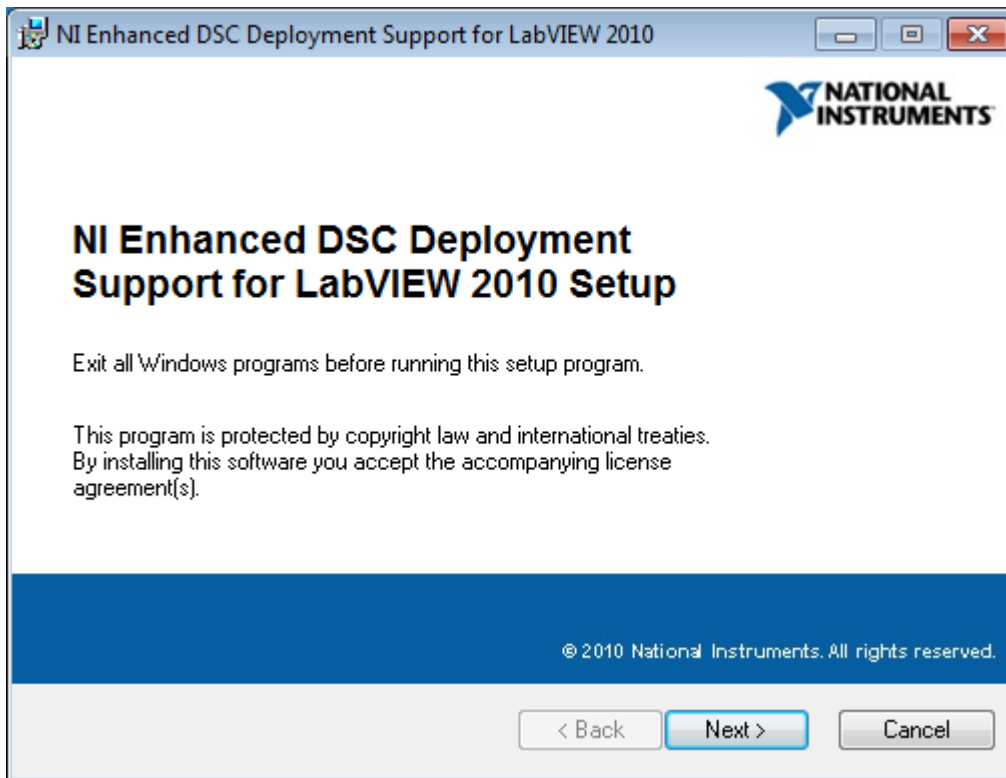

Figure 28. LabVIEW RTE Installation Initialization
2. Double click on the downloaded LVRTE2010std.exe file. The screen shown in Figure 28 appears. Press the *Next >* button.